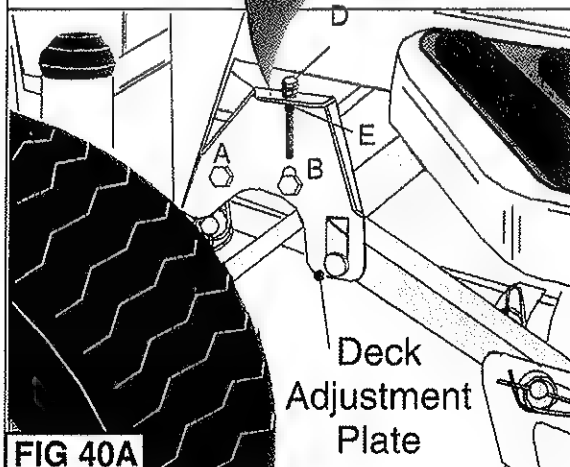

FIG 40A
1. Having levelled the rear of the deck check if the front is level. If not, you will need to find the Deck Adjustment Plate (fig 40A) which is forward of the cutter deck near the front (nearside) wheel.
3. Then, using a 13mm spanner, loosen (upper) locknut (D).
4. Now adjust the height by using a ratchet or spanner to turn the Nyloc nut (E) clockwise (up) to raise the deck or anti-clockwise (down) to lower it.